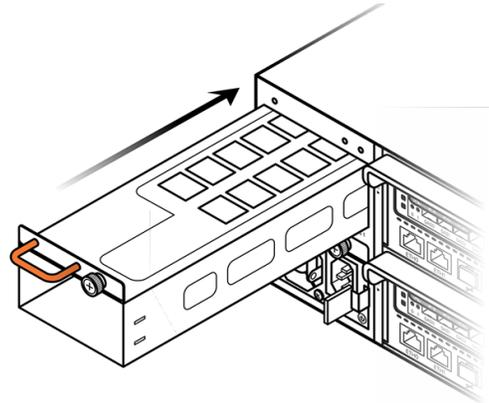

Figure 3-7. Installing a PSM
1. Align the PSM with the slot and carefully slide it in until the retention mechanism engages. See Figure 3-7.